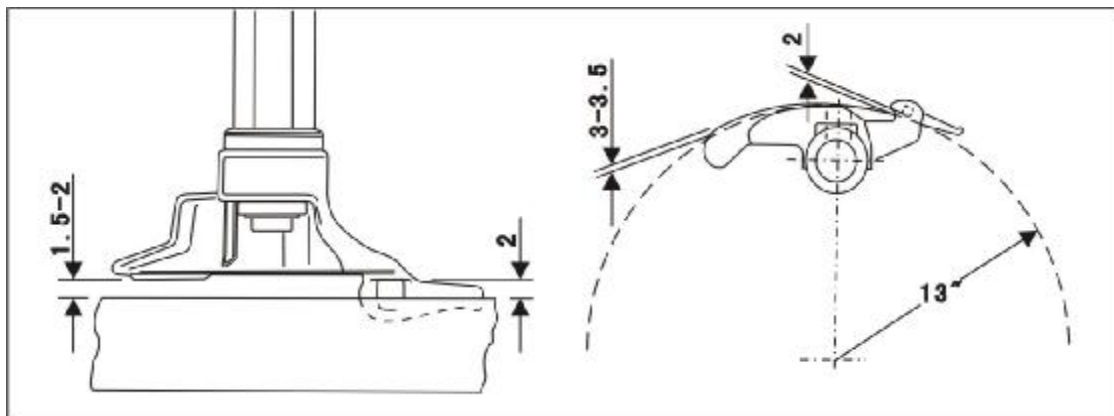
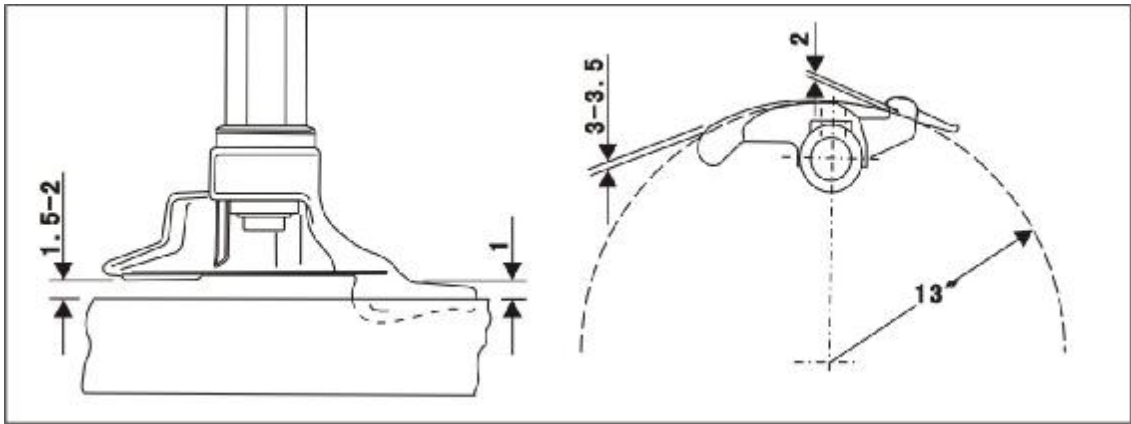

Fig.26
Fig.27
- I By means of the appropriate gauge kit, check measurements as indicated in Fig.26 for mount/demount head with roller) and fig.27(mount / demount head with insert).